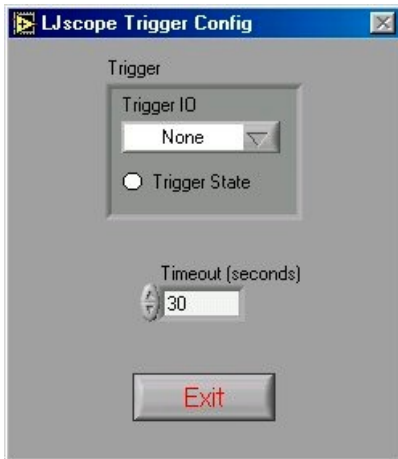

Figure 3-11. Configure Trigger
- **Configure Trigger:** Brings up the window shown in Figure 3-11. Choose the IO line to trigger on and whether to trigger when it is high or low. Also set the timeout period so the application will continue (with an error) if the trigger is not detected.